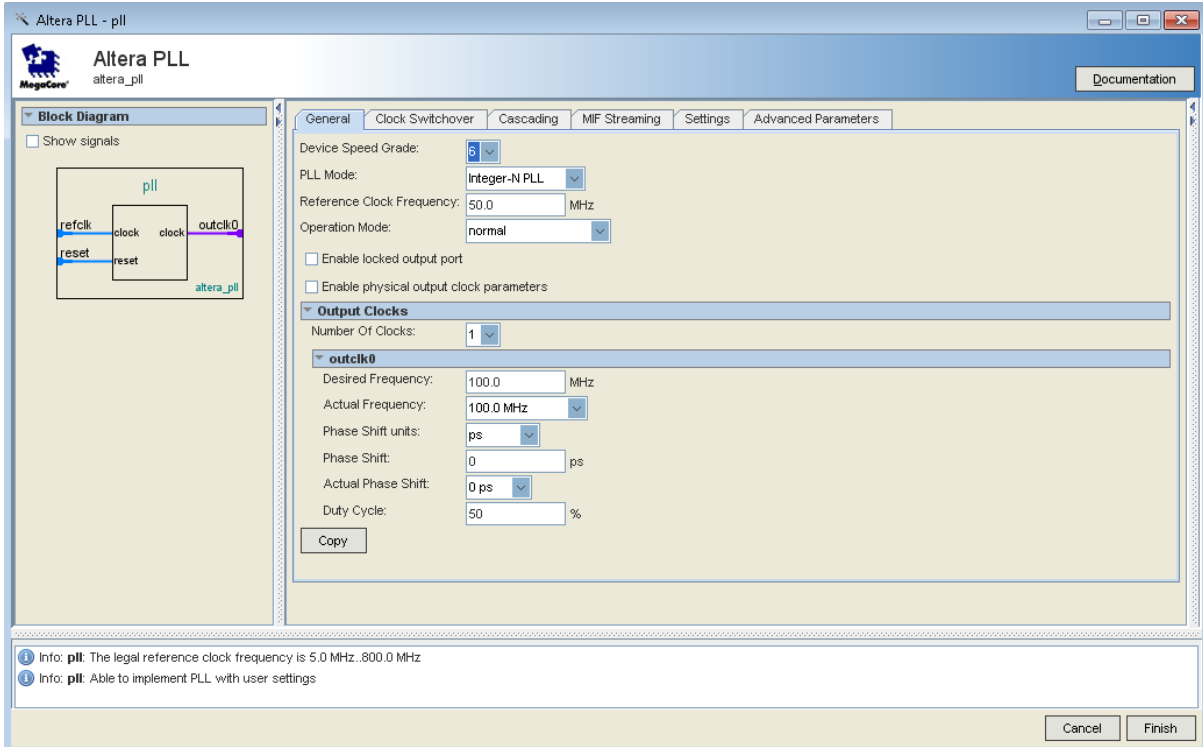

Figure 3-11 Selections of Altera PLL windows
- Turn off the Enable locked output port option on IP windows. As you turn it off, pin disappear from the PLL block’s graphical preview. See Figure 3-11 for an example.